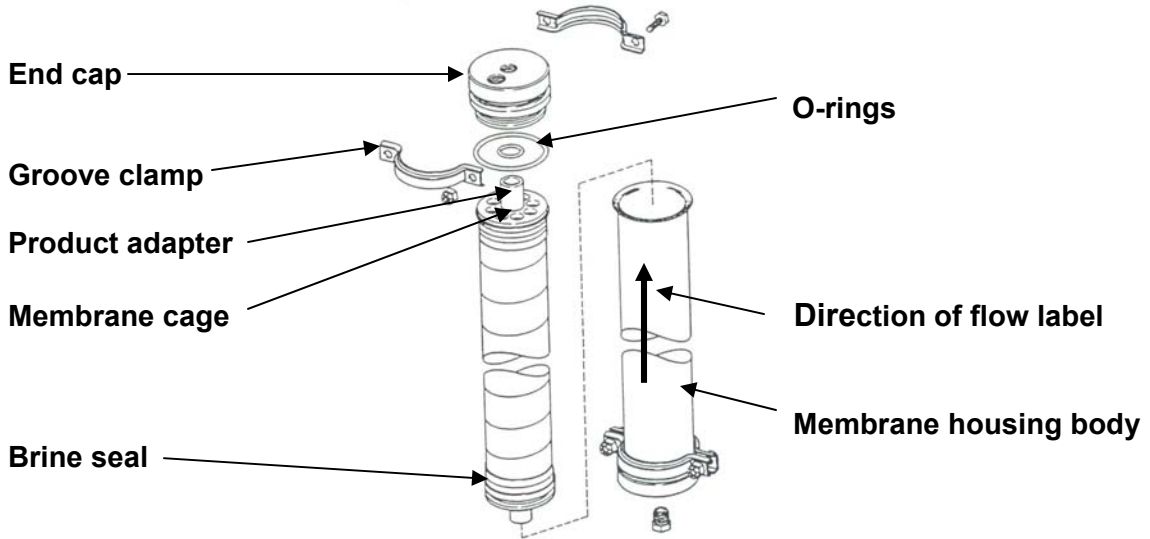

Figure 3. (Stainless membrane housing)
2. Remove the wrapping from the membrane element(s). Lightly lubricate the membrane brine seal and all o-rings located in the membrane housing caps with a good quality, silicone o-ring lubricant (do not use petroleum-based lubricants). Disconnect the connections on the membrane housing's top end cap. Remove the end cap from the membrane housing by loosening the band clamp nuts and bolts. The membrane housing is mounted vertically on the system's stand. See Figure 1. Insert the membrane element into the housing, so that the brine seal of the membrane will seat at the inlet side of the membrane housing (this is indicated by the direction of flow label on the housing). See Figure 3. Gently push and slowly twist until the membrane product adapter seats snugly inside the housing cap still in place at the bottom of the housing. Re-install the
1. Turn on the feed water valve to the system and check all connections for leaks. Do not proceed further until any leaks are fixed. Water will flow to the pre-treatment housings but will not pass the inlet solenoid (see Figure 3.) until the system has been started. The available line pressure should now register on the line pressure gauge.